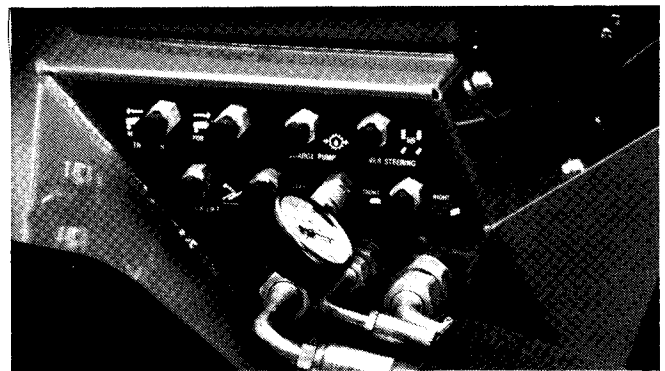

Figure 16
1. Connect a 5,000 psi gauge onto DECK DRIVE test port for circuit to be checked (Fig. 16).